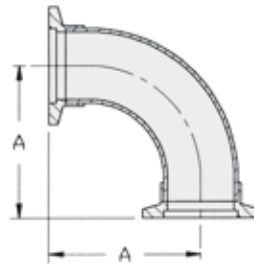
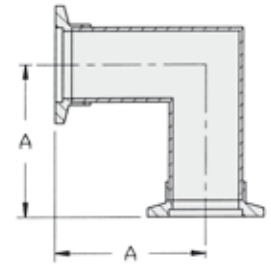

FIG. 1
FIG. 2
* See Fig. 1; all other Part Numbers see Fig. 2.